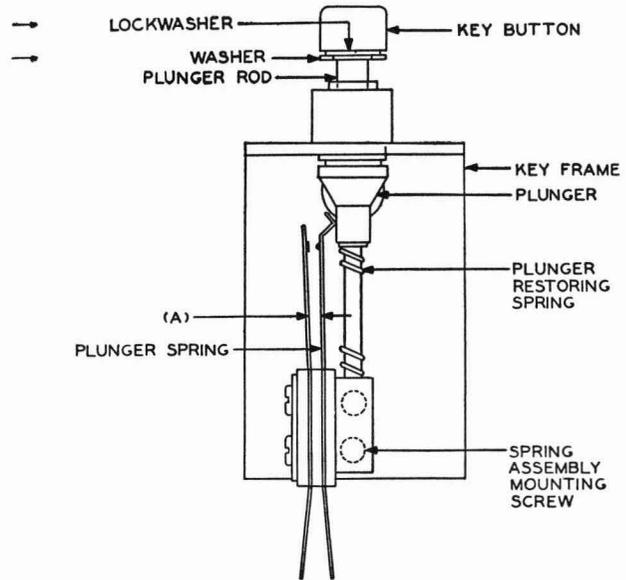

Fig. 6—579-type Key
- (b) Fig. 6(A)—There shall be a clearance between springs designed to make contact whether in the operated or unoperated position of